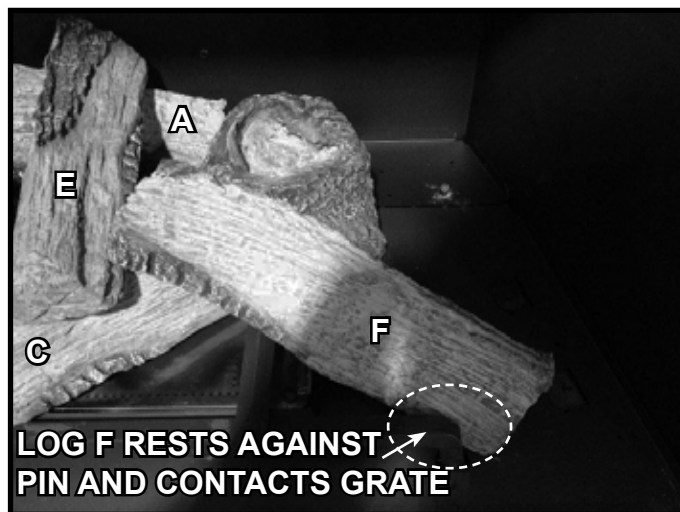

Figure 10. Log E Installed
6. **(LOG F):** Place Log F into appliance as shown in Figure 10. The burned out end of the log should rest on Log C and contact Log E. The unburned end of Log F should rest against log pin F, as shown in Figure 4, and contact the back of the lower grate tine as noted in Figure 10. Figure 3 shows the installed log set.